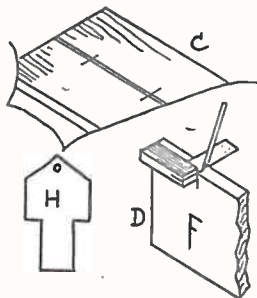

Fig. 2
To use the gadget on this part of the job, cut a piece of wood, as at (H) in Fig. 2, of suitable thickness and interpose between parts (A) and (B). Its thickness will be determined by the distance required between (A) and the point of the drill bit, this distance being obviously the same as the distance between the side of the legs and the dowel points. As a further guide, draw pencil lines across the leg over the dowel guide points already made. The holes can then be bored with the aid of the gadget, as described.